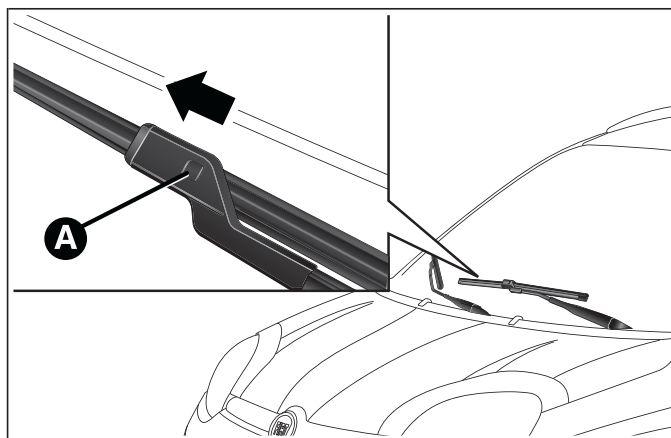

fig. 155
- ☐ raise the wiper arm, press tab A fig. 155 of the attachment spring and remove the blade from the arm;